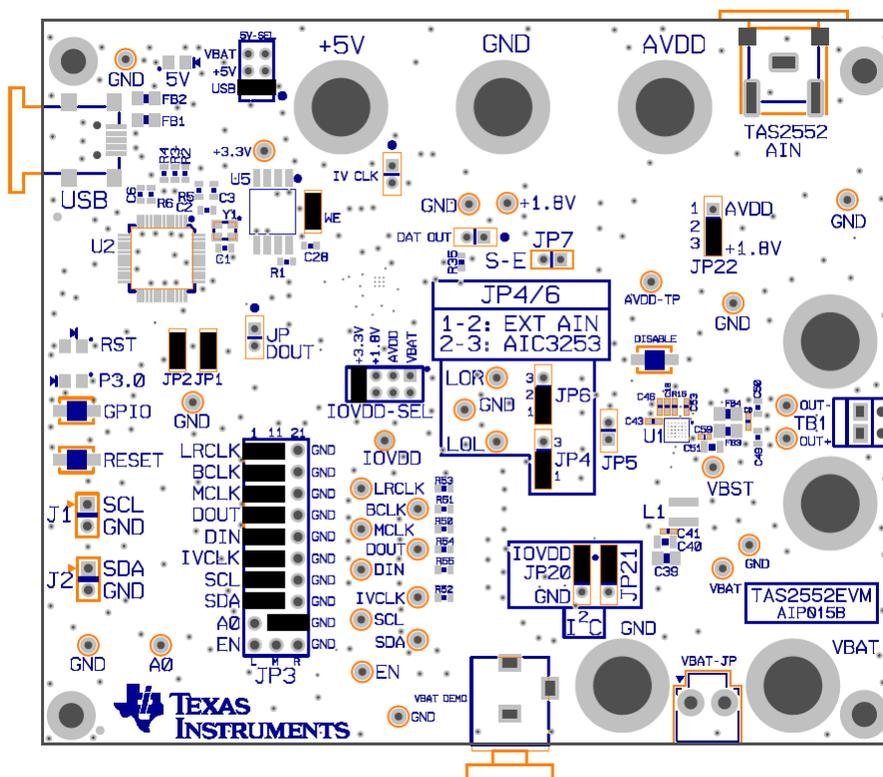

Figure 2. TAS2552EVM Default Jumper Settings
4. Ensure the jumpers are set according to Table 2 and Figure 2: